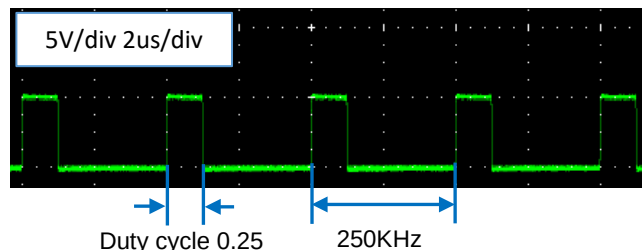

Figure 15. PWM Signal
2. Setup PWM signal on the signal generator as shown in Figure 15. Then, turn on the PWM signal to the board.